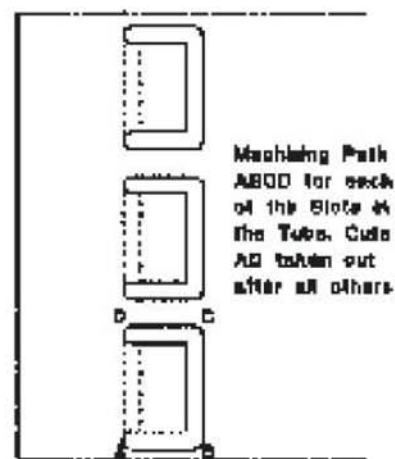

Fig 1. This represents the development of the Whistle Tube to indicate the order of cuts
3. Each of the three voice slots should now be cut out on three sides only, referring to the diagram in fig 1, in which I have tried to portray the developed shape of the tube which passes under the cutter. First plunge the slot drill into the tube at point A nearest the chuck.